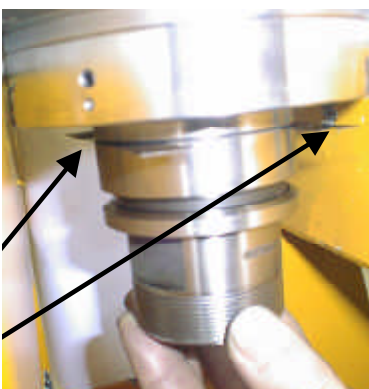

Figure 12.20
1. Place shims first of thickness 0.12 mm or 0.16 mm between the faces of the tool holder cone and the spindle shaft as shown in Figure 12.20 in accordance with the table below.